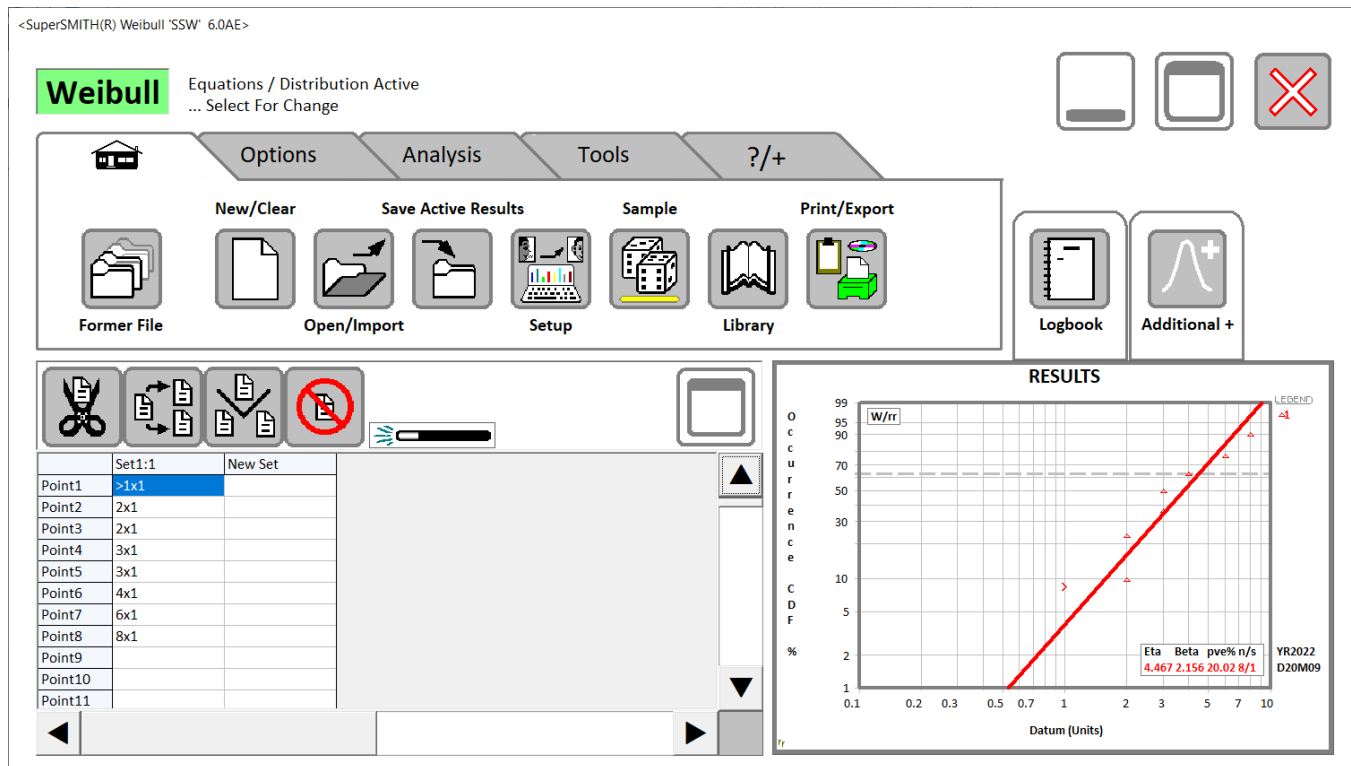

Figure 2: New SuperSMITH Weibull Main Screen Icon Layout.
DIRECT INSTALL: Power up the PC (Windows or simulator). Have the SS **setup.exe** and other installation files available. Load onto the PC by running **setup.exe** and following the prompts. After install, within the SuperSMITH group, select the SuperSMITH Weibull program. This is the SMITHW.EXE file or the icon showing plotted data with fit and confidence lines. Initially select “Yes” to agree to usage conditions, and automatically advance to the Main Screen (Figure 1 below shows the former icon layout, Figure 2 on the next page shows the new icon layout).
Use single selecting (single touching for touch screens) mostly in SuperSMITH. Double selecting is discouraged to minimize hand stress. We will be using life data mostly for illustration, but any type of measured data with variability can be analyzed. **For this tutorial if using the DEMO software, all input data must only be loaded from a file previously saved by a FULL SuperSMITH software program (provided with the software).** If using the FULL software, this is not a concern but maybe easier to do. All file names shown here are on a single text line for easy copying. Reminder: Figure 1 shows the new SSW icon layout for standard pointing device use, and Figure 2 shows an optional larger icon layout with tabs for touch screen use.
Start the SSW software by choosing Start from the Windows™ Main Screen, then the SuperSMITH group, then Weibull. On first use, select “Yes, I agree...” if you are asked and if you agree to the software use terms. The Main Screen (View of Figure 1 or Figure 2) should appear with an equation Label (“Weibull” at first), some icons, a data grid and a results box.
B. A probability plot should appear. Select the plot to enlarge. The plot should resemble the one in Figure 2. Your solution should indicate Eta=4.467, Beta=2.156. If not ... check the data and/or reset the method to Weibull “rank regression” standard. Select the full-window plot or use the <ESC> key to shrink the plot which will take you back to the Main Screen.